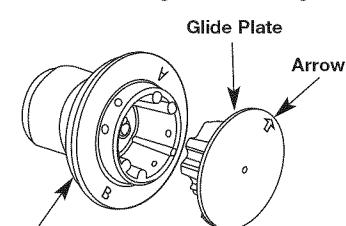

Fig. 14
- Reinstall line glide plate (Fig. 14). Align arrow with: